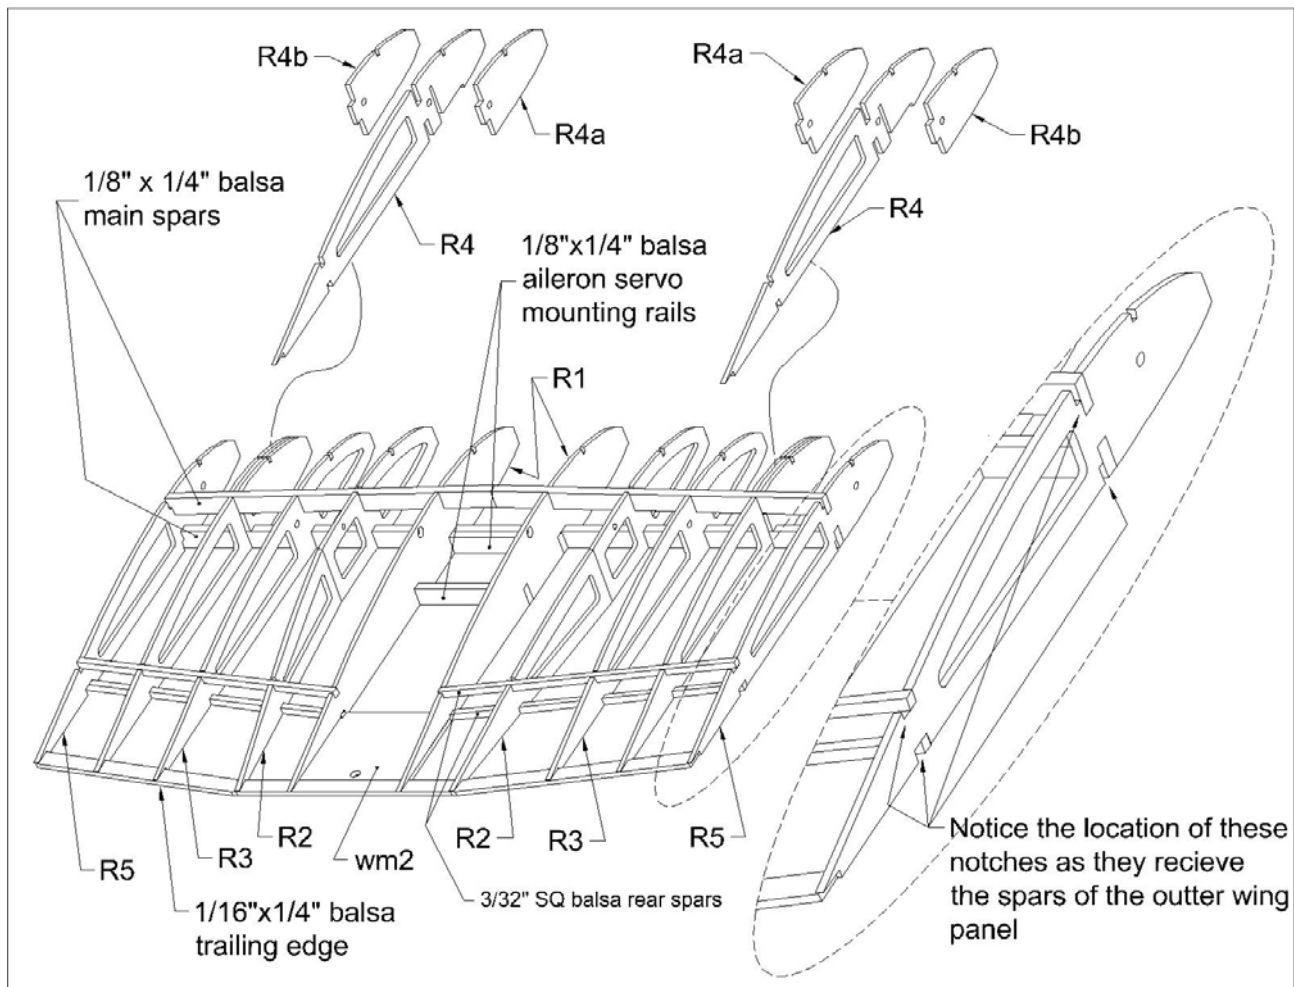

Figure 6
- ❑ Build the landing gear support rib subassemblies using ribs **R4**, **R4a**, and **R4b**. Note the differences in each subassembly by referring to Figure 6.
- ❑ Glue the top 3/32" SQ balsa rear spar to ribs **R1** through **R5**. Study the enlarged **R5** rib illustration in Figure 6 for a better look at the spar location in **R5**.